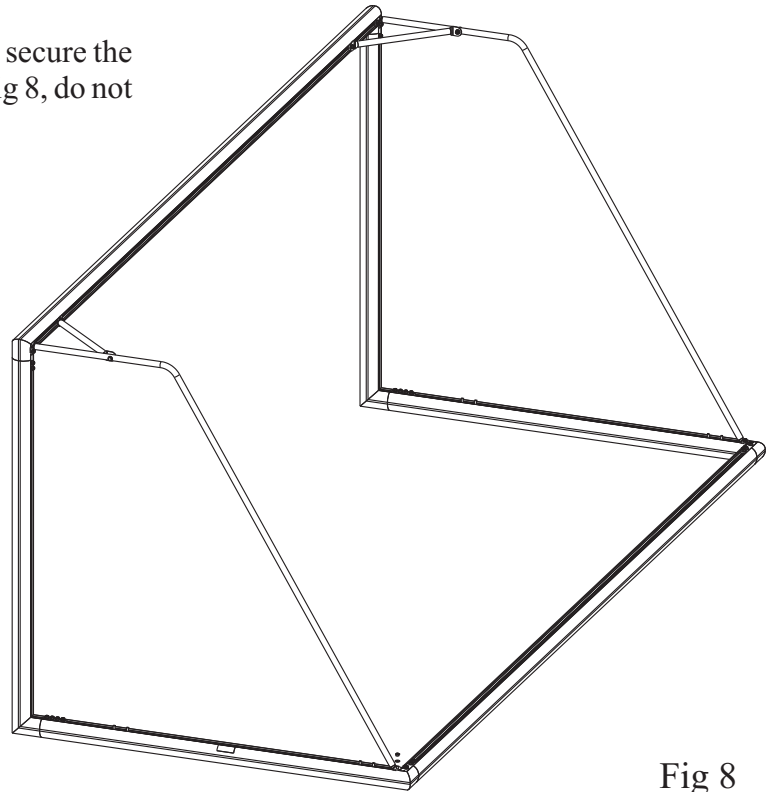

Fig 8
**Secure the Net Support to the Backbar** - Loosely secure the bottom of the Net Support to the Bolt as shown in Fig 8, do not fully tighten until the wheel has been fitted.
**Note:** Use items 16 & 17 on these bolts if your goal is not supplied with rear wheels FPK264 (Item 19)